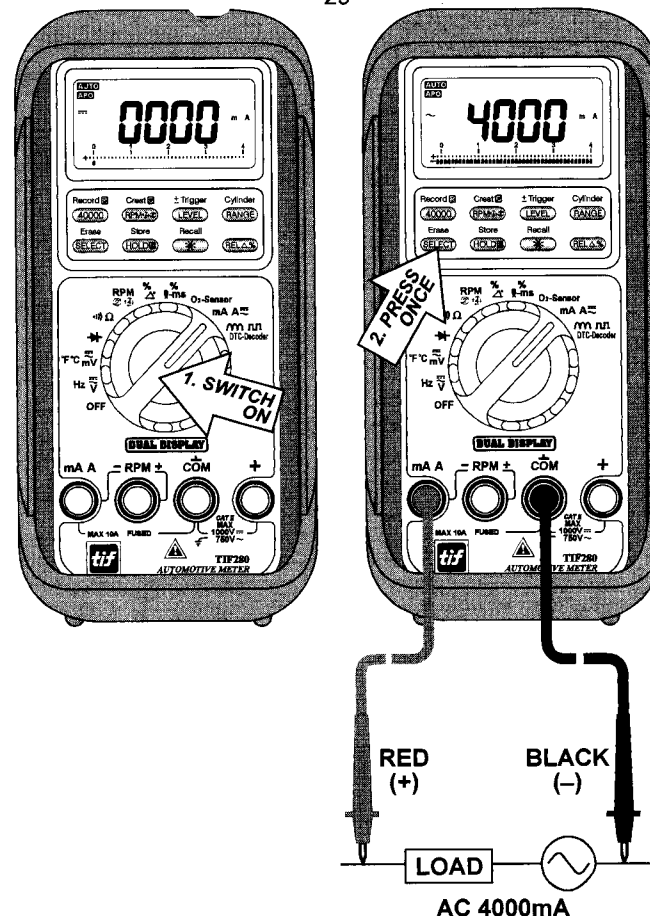

FIG 12. mA, A FUNCTIONS
- 4) Connect the test leads as shown in **FIG 12** and observe the digital display